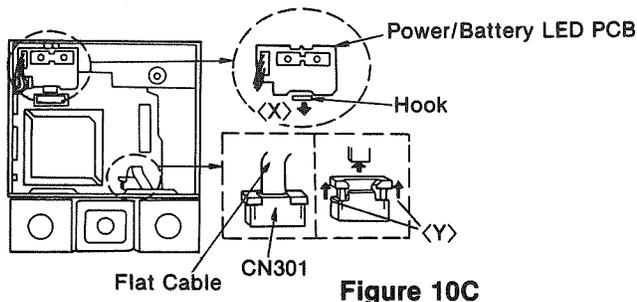

Figure 10C
(6) Remove the Power/Battery LED PCB from the Top Case as shown in Figure 10C.
Note: The PCB can be removed by pushing the hook in the direction of <X> as shown in Figure 10C.
Note: The flat cable can be removed by sliding its connector in the direction of <Y> as shown in Figure 10C.